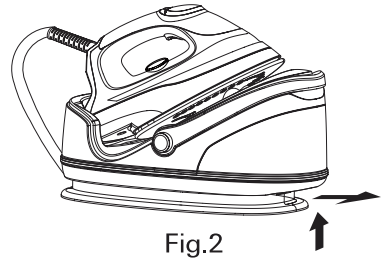

Fig.2
1. Press the water tank lock upwards and slide the detachable water tank outwards from the base.(Fig.2)